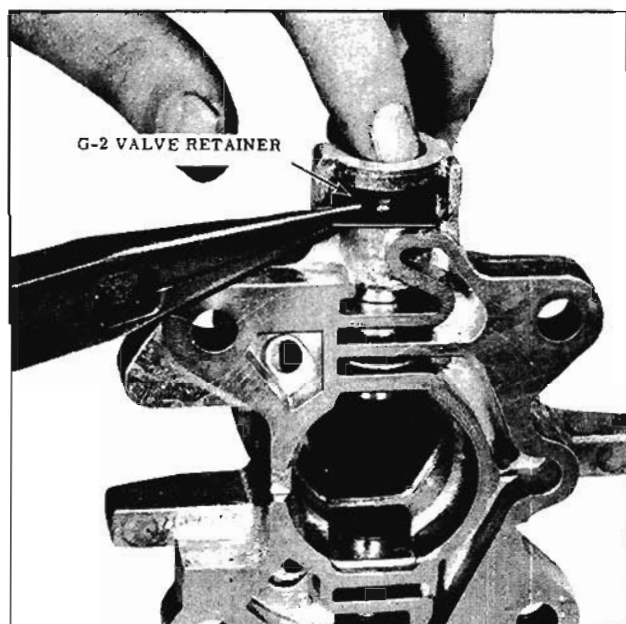

Fig. 6-64 Removing Retainer
1. Compress tang of G-2 plug retainer and remove. (Fig. 6-64)